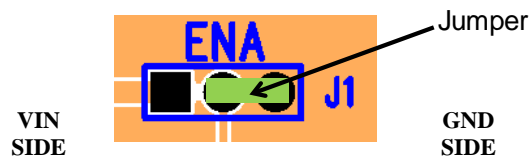

Figure 2: J2 allows control of the Enable pin.
The jumper on Enable pin as shown in Figure 2 is in disable mode. When jumper is between the middle and right pins the signal pin is connected to ground or logic low. When the jumper is between the left and middle pins, the signal pin is connected to AVIN or logic High.
STEP 1: Set the “ENA” jumper to the Disable Position. See Figure 2 above.